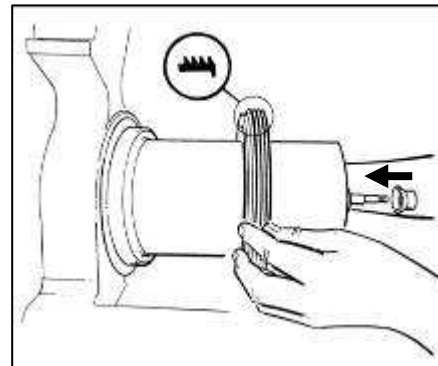

Fig. 21
- Reassemble the rear gasket and the bell shaped one, respecting the correct direction as indicated in figure 21.